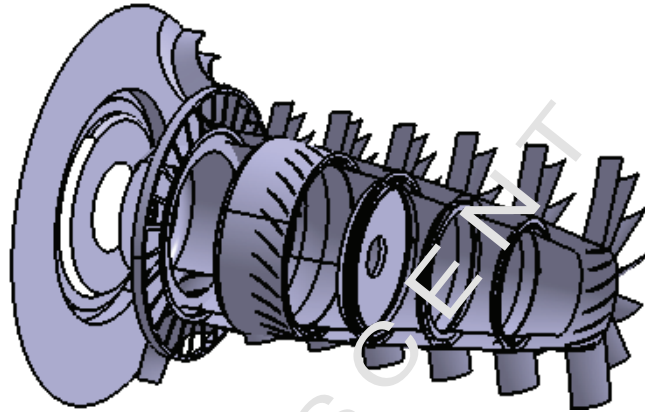

Figure 1-77
1. Create another mask that results in the display shown in Figure 1-77.